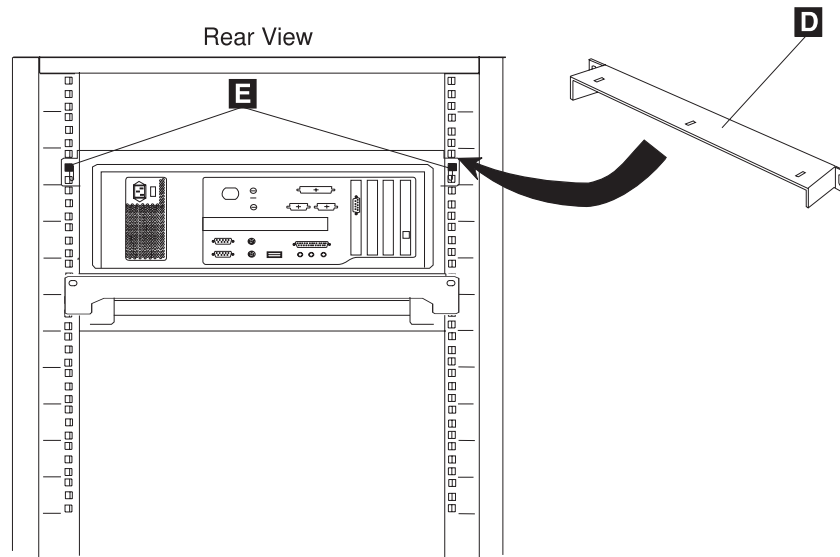

Figure 1-26. Support Installation at the Rear of a 29U Rack
3. ____ On the rear of the rack, install the support **D** using the screws **E** (PN 43G3084) (see Figure 1-26 on page 1-21).